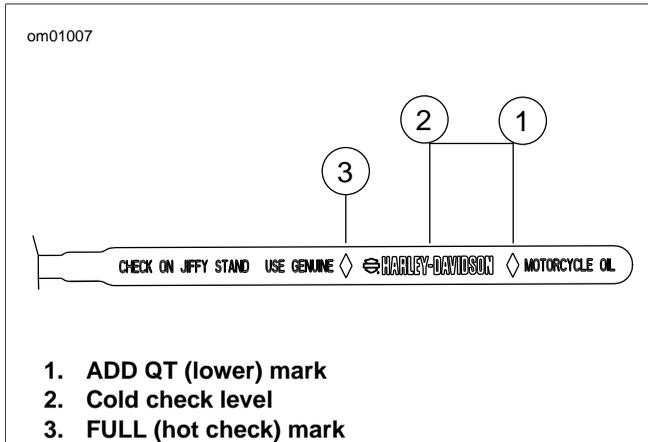

Figure 1-3. Engine Oil Dipstick (Sidecar Use)
3. See Figure 1-2. Remove the dipstick and verify the level of the oil. The correct oil level should register between the two marks on the dipstick. If sidecar is attached, check oil level using the opposite side of dipstick as shown in Figure 1-3.
4. See Figure 1-2. Remove the dipstick and note the level of the oil. If sidecar is attached, check oil level using the opposite side of dipstick as shown in Figure 1-3. Add only enough oil to bring the level to the FULL mark on the dipstick. Do not overfill.
The engine oil dipstick has different markings on its two sides. Figure 1-2 shows the engine oil level when the motorcycle is on its jiffy stand. Figure 1-3 shows the engine oil level with a sidecar attached (motorcycle upright).